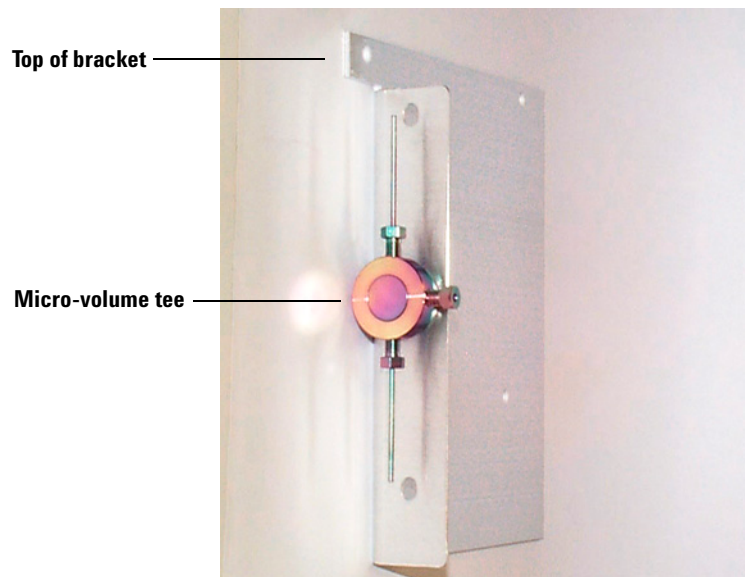

Figure 13 Adding tubing
- 1 Install a micro-volume tee in the center position of the Deans bracket, using an 8-32 screw and a flat washer. Orient the tee to the bracket as shown in Figure 13.
- 2 Install 5 cm lengths of the Sulfinert-treated metal tubing into the top and bottom connections (Figure 13). Finger-tighten the nuts. Tighten $\frac{1}{4}$ -turn more with a wrench.